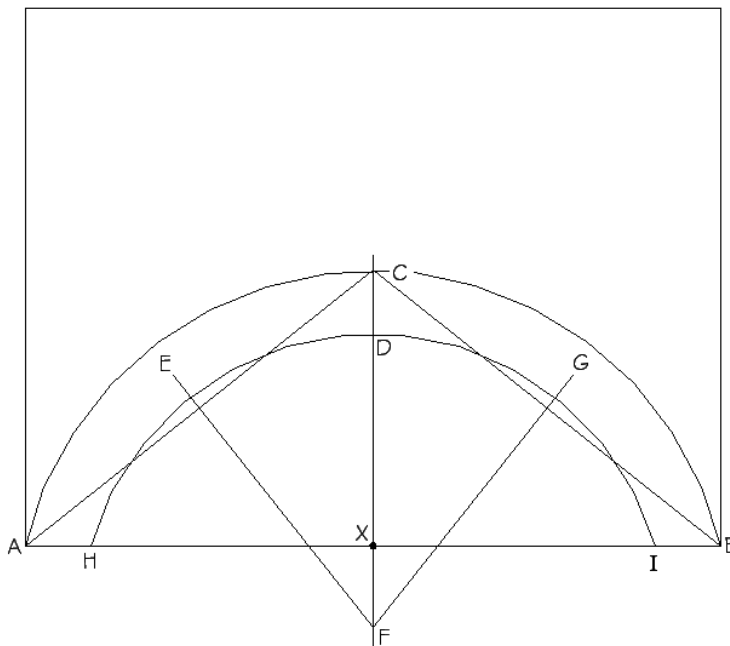

Figure 13.13
3. Having transferred the dimensions of your area to graph-paper (**Figure 13.13**), determine center-point X on base line AB, and construct perpendicular to X, carrying it well below the base line. In the case of a semi-circular arch, which is based on a true half-circle, its center point is found on the base line. But since a segmental arch is based only on a section of arc (less than a half-circle), its center will be located at some point along the perpendicular below the base line. **Note: Use Figure 13.13 to follow steps 4 through 7.**